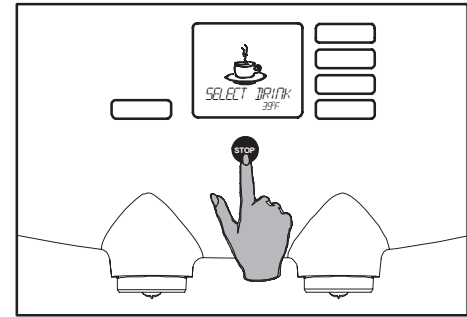

Fig. 17 Stop button
3. Press the stop button to stop dispensing earlier, for example if you want the pot to be less full (fig. 17).
- The stop button can be pressed at any time to stop dispensing (fig. 17).